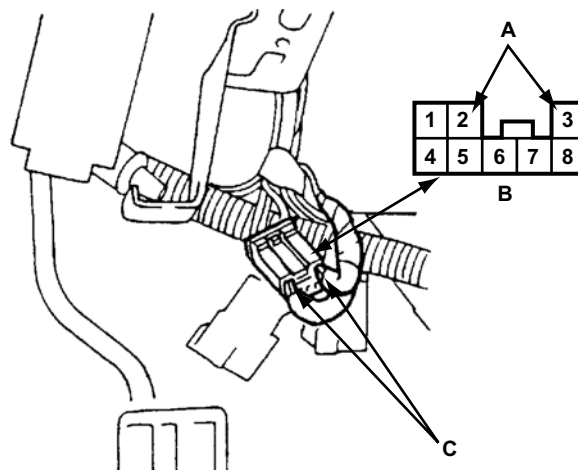

Figure 15-58 2000–04 Legacy and 2003–05 Baja Airbag (SRS) Diagnosis connector
- 2000–2004 Legacy/Outback Sedan and Wagon (Figure 15-58 on page 226)
- 2003–2005 Baja (Figure 15-58 on page 226)
1. With the key on and the engine off, install either diagnostic terminal into pin 2 or the airbag (SRS) diagnostic connector. The connector is located in the left lower dash panel area (Figure 15-58).